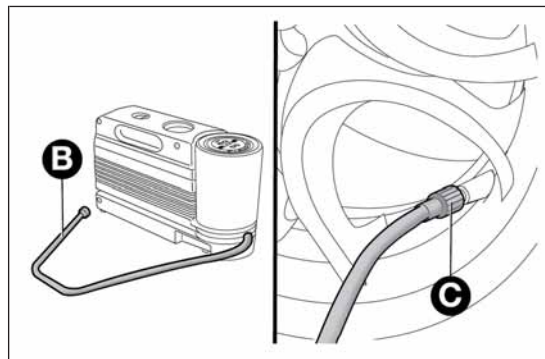

fig. 127
- ❑ engage the handbrake, unscrew the tyre valve cap, take out the flexible filler pipe A fig. 127 and tighten the ring nut B on the tyre valve;